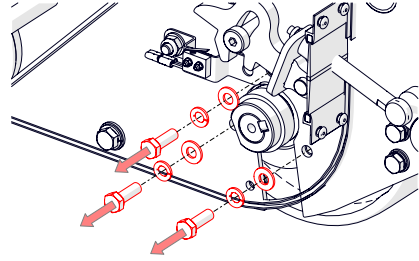

Fig. 25J - Remove LH bearing hex screws
13. Double check to see if the rear roller is still supported. Remove the 3 x hex screws supporting the LH bearing [13 mm spanner] (Fig. 25J).